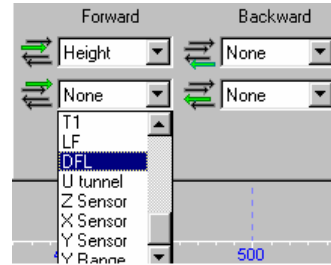

Fig. 3-60
- Select **DFL** in the “signals menu” that drops down. (Fig. 3-60)